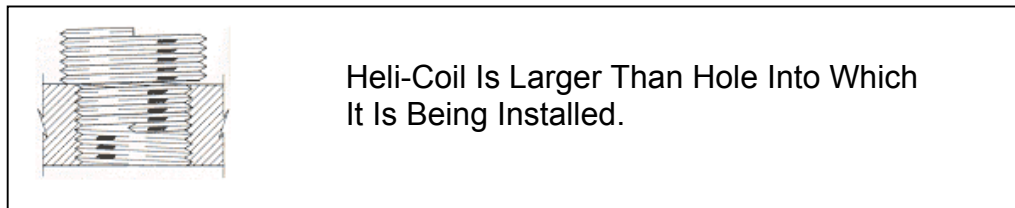

Figure 4 – Heli-Coil Being Inserted Into Hole.
- 6.10 Once fitted, the heli-coil will not move. It is secured in position through radial pressure exerted by the coils on the thread flanks. Radial pressure exists because the outside diameter of the heli-coil in its “Free State” is larger by a calculated amount than the hole into which it is to be installed. (Refer to Figure 4)